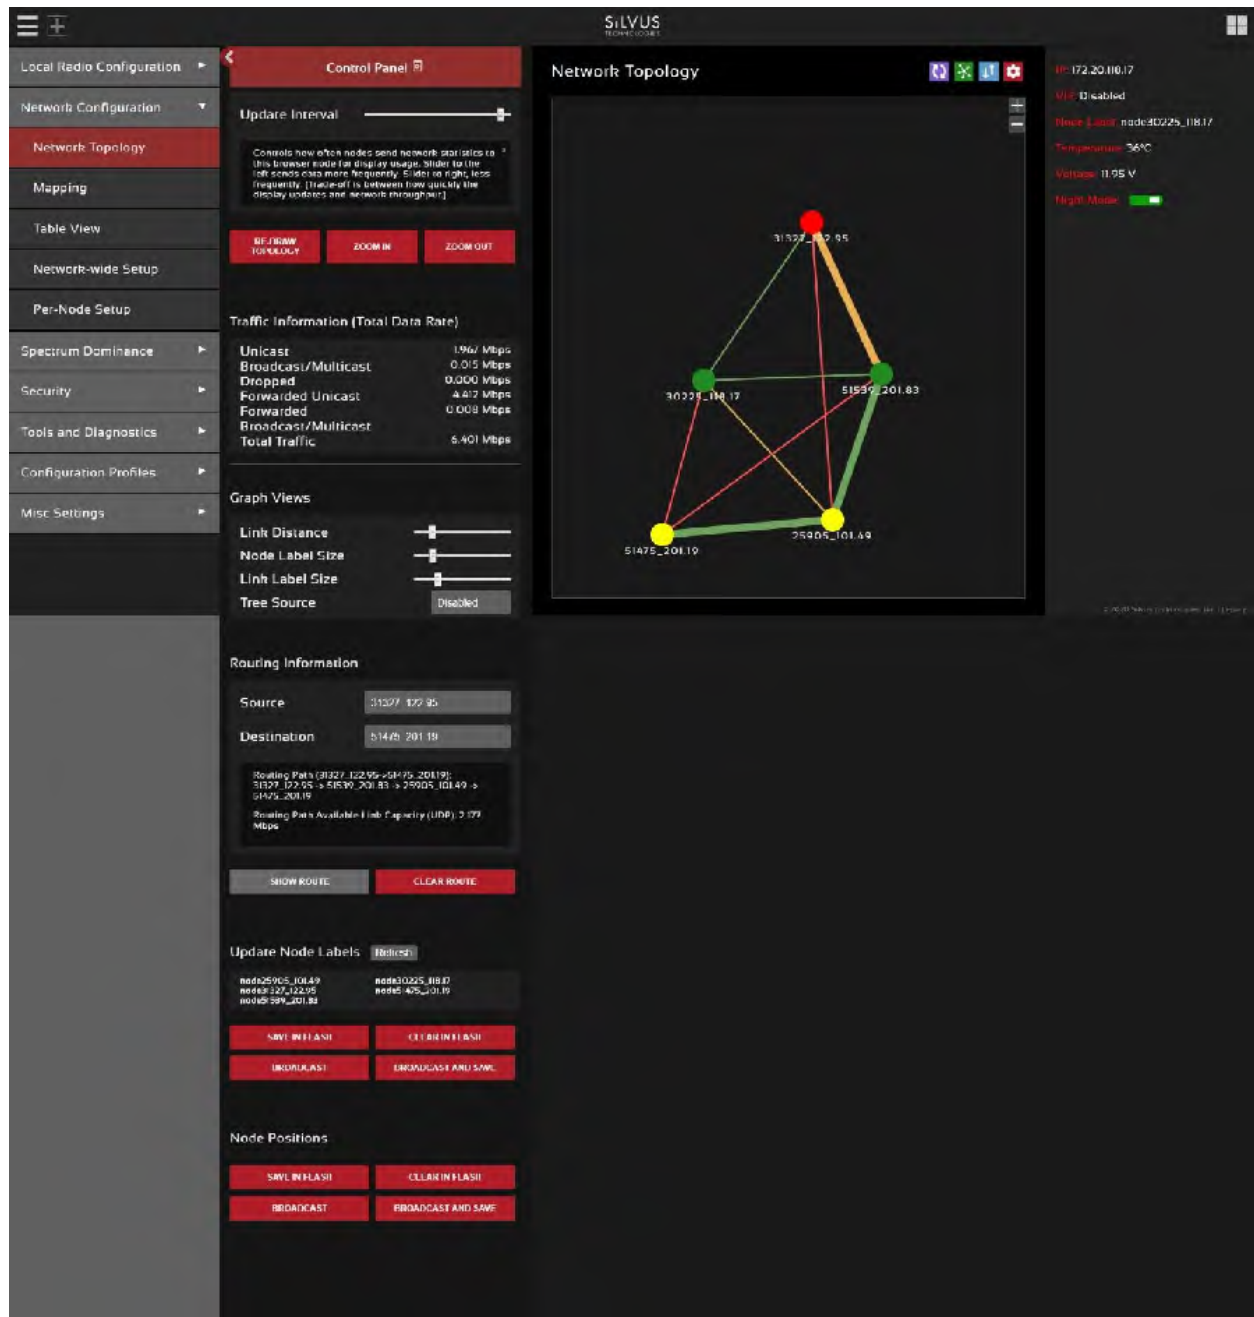

Figure 47 Routing Path
- Routing Information** – The user can view the routing path between any 2 nodes within a network by simply specifying the source and destination node in the Control Panel. The path will turn bold as shown in **Figure 47 Routing Path** for the path from ‘node31327’ to ‘node51475’. In the control panel section it will also list the routing path used between these two nodes, and the routing path available link capacity in UDP.